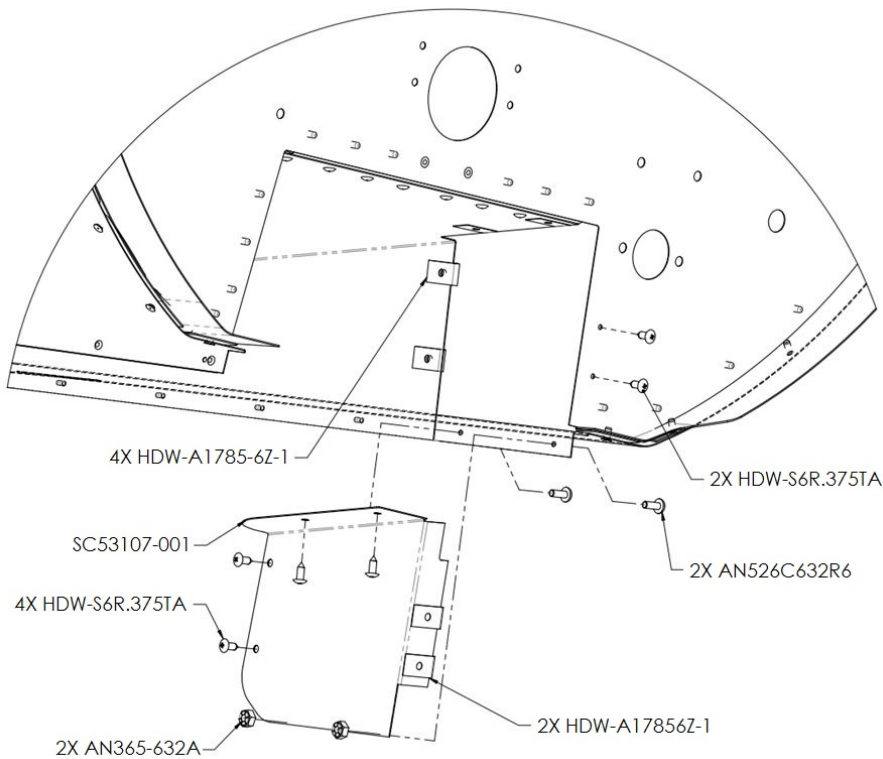

FIGURE 12B – Access Cover Installation
- 37.** Drill holes as required for hardware installation, see Figure 12B.